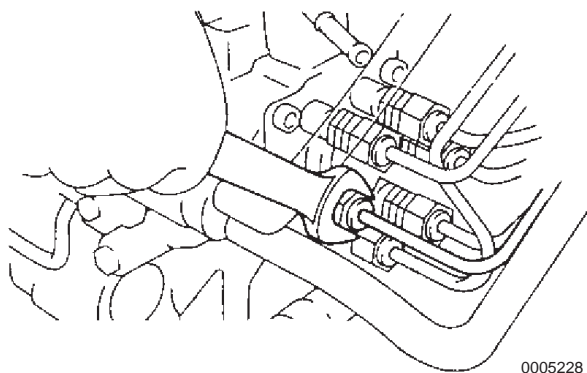

Figure 5-227
3. Loosen the two union nuts securing the fuel injection pump to No. 1 and No. 5 fuel injection pipes and position them out of the way (Figure 5-227).